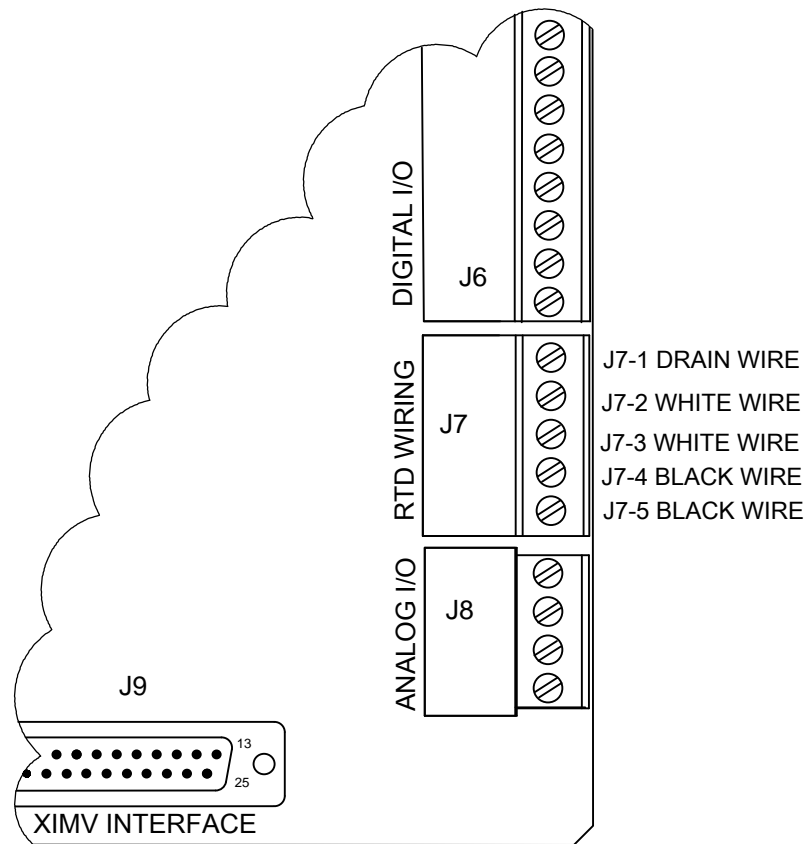

Figure 57 RTD Input Connections
11. Insert the wire and then retighten (see Figure 57).